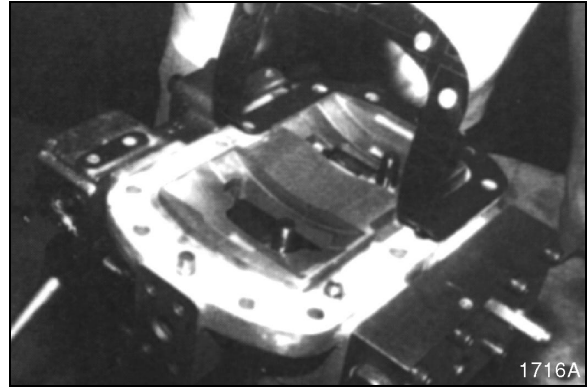

Figure 122
18. Install gasket. See Figure 122.